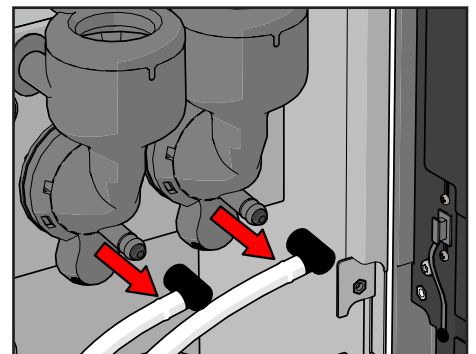

Figure 50. Detach spout tubes from mixer
5. Detach the spout-tubes from the mixers (see Figure 50).